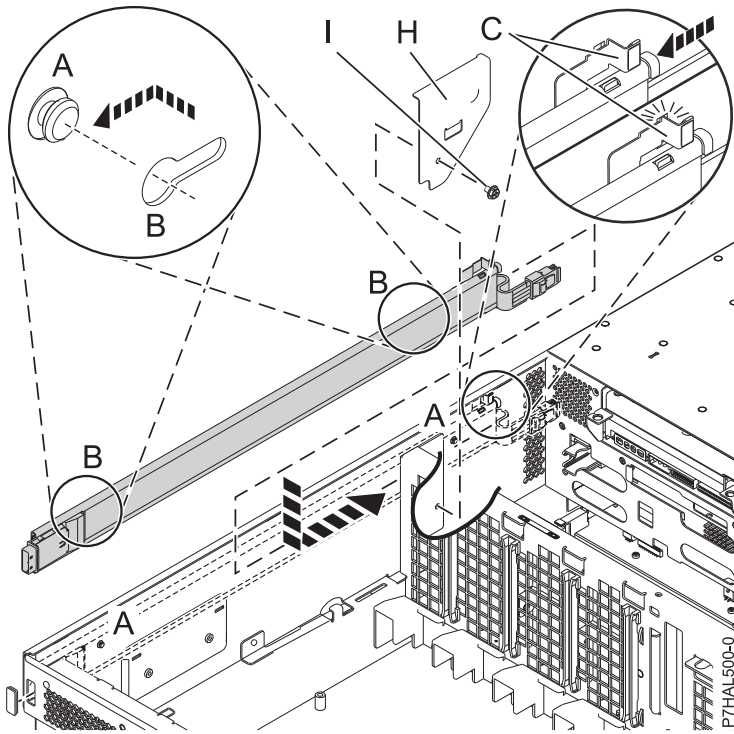

Figure 142. Attaching the SAS cable
**Tip:** Refer to Figure 142 on page 160 to complete the next few steps.
8. Insert the pins (A) on the side of the system into the slots (B) on the SAS cable assembly.
9. Slide the cable assembly back until the pins (A) are seated and the latch (C) snaps in place.
10. Attach the cable bracket (H) by placing the notch on the bracket over the post on the side of the system, aligning the screw hole (I) with the hole on the side of the system, and securing the cable bracket with the screw.